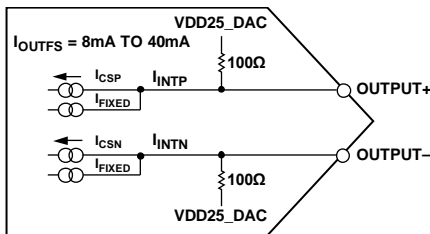

Figure 135. Equivalent DAC Output Circuit
The AD9163 provides complementary current outputs, OUTPUT+ and OUTPUT-, that sink current from an external load that is referenced to the 2.5 V VDD25_DAC supply. Figure 135 shows an equivalent output circuit for the DAC. Compared to most current output DACs of this type, the outputs of the AD9163 consists of a constant current (I_FIXED), and a peak differential ac current, I_CS (I_CS = I_CSP + I_CSN). These two currents combine to form the I_INTx currents shown in Figure 135. The internal currents, I_INTP and I_INTN, are sent to the output pin and to an input termination resistance equivalent to 100 Ω pulled to the VDD25_DAC supply (R_INT). This termination serves to divide the output current based on the external termination resistors that are pulled to VDD25_DAC.
The example shown in Figure 135 can be modeled as a pair of dc current sources that source a current of I_OUTFS to each output. This differential ac current source is used to model the signal (that is, a digital code) dependent nature of the DAC output. The polarity and signal dependency of this ac current source are related to the digital code (F) by the following equation: